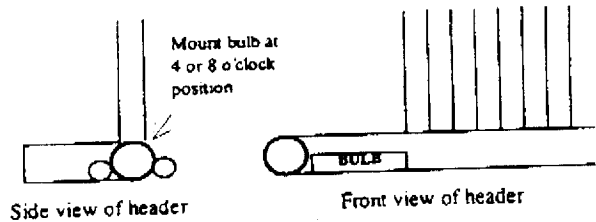

Figure 2
**ATTENTION/CAUTION:** On factory installed expansion valve coils, the valve sensing bulb is mounted in a shipping location to prevent overheating during coil installation. After all torch work is completed, the bulb can be strapped to the suction line at the 4 or 8 o'clock position. (see figure 2) Failure to properly locate bulb can result in unsatisfactory performance and compressor damage.